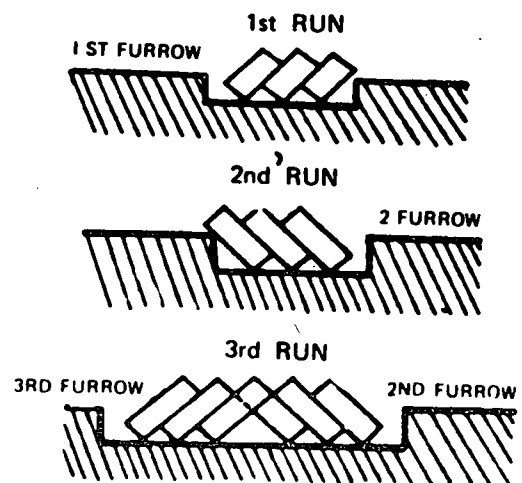

Fig. 2
- c) Plough in a straight line to the end of the ridge (Fig. 2).